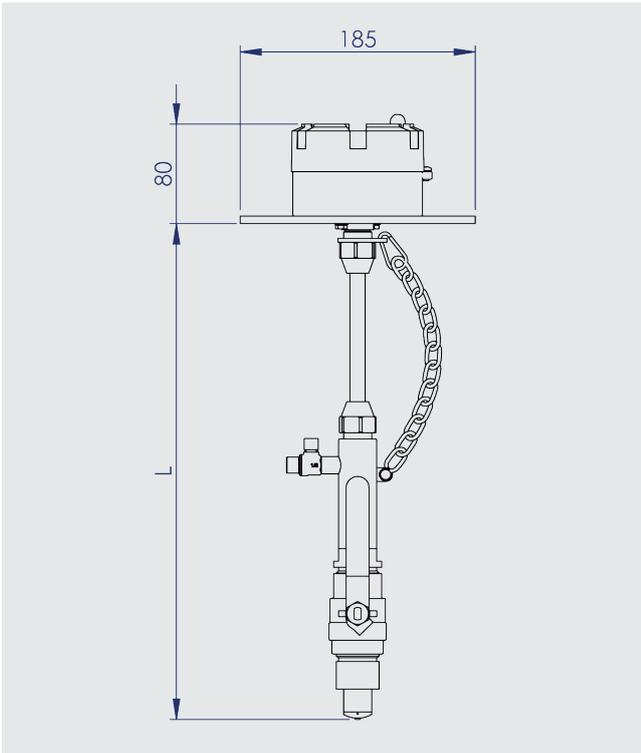

Fig. 63a: FLC-1222 dimensions
- $L$  = Flow meter length according to the table of Fig. 63a;